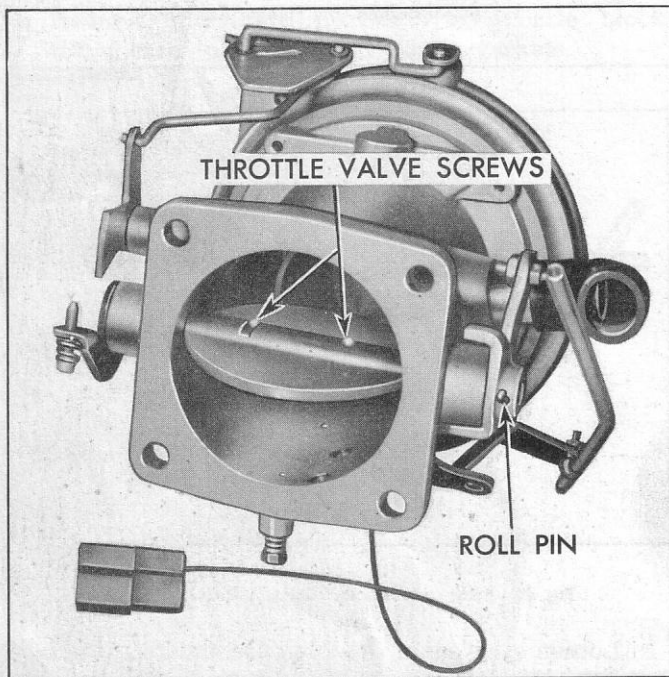

Fig. 68—Removing Throttle Shaft and Valve
2. Remove roll pin retaining throttle linkage to shaft linkage (fig. 68).